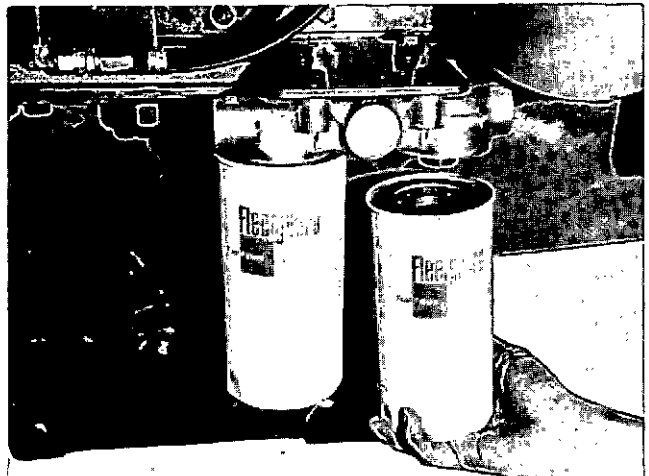

Fig. 14-1-81, V40041. Throw-away-type fuel filter
1. Position mounting bracket at desired location on block; secure with lockwashers and capscrews. Fig. 14-1-81.